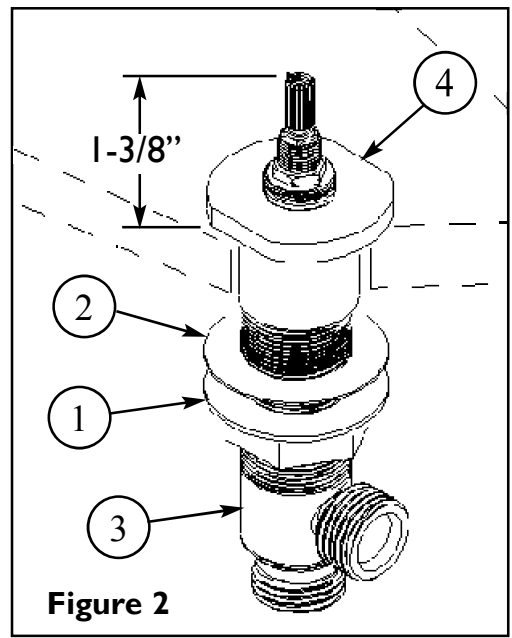

Figure 2
2. Place the plastic flange NUT (1) and fiber WASHER (2) onto valve BODY (3). Insert valve BODY (3) through sink hole from underside of sink. Thread inverted flange NUT (4) onto upper position of valve BODY (3) until it bottoms out. Valve BODY (3) should extend 1-3/8" above mounting surface. Secure into place by tightening lower flange NUT (1) to 20 ft.lbs. **See Figure 2.**
3. Connect larger coupling NUT (4) to T-VALVE (9) and NUT (8) to outlet of each valve BODY (3). Hand tighten and secure each connection with a wrench 1/4 turn. Connect water supply to VALVE BODIES (1, 1A) with one of the three following types of risers: